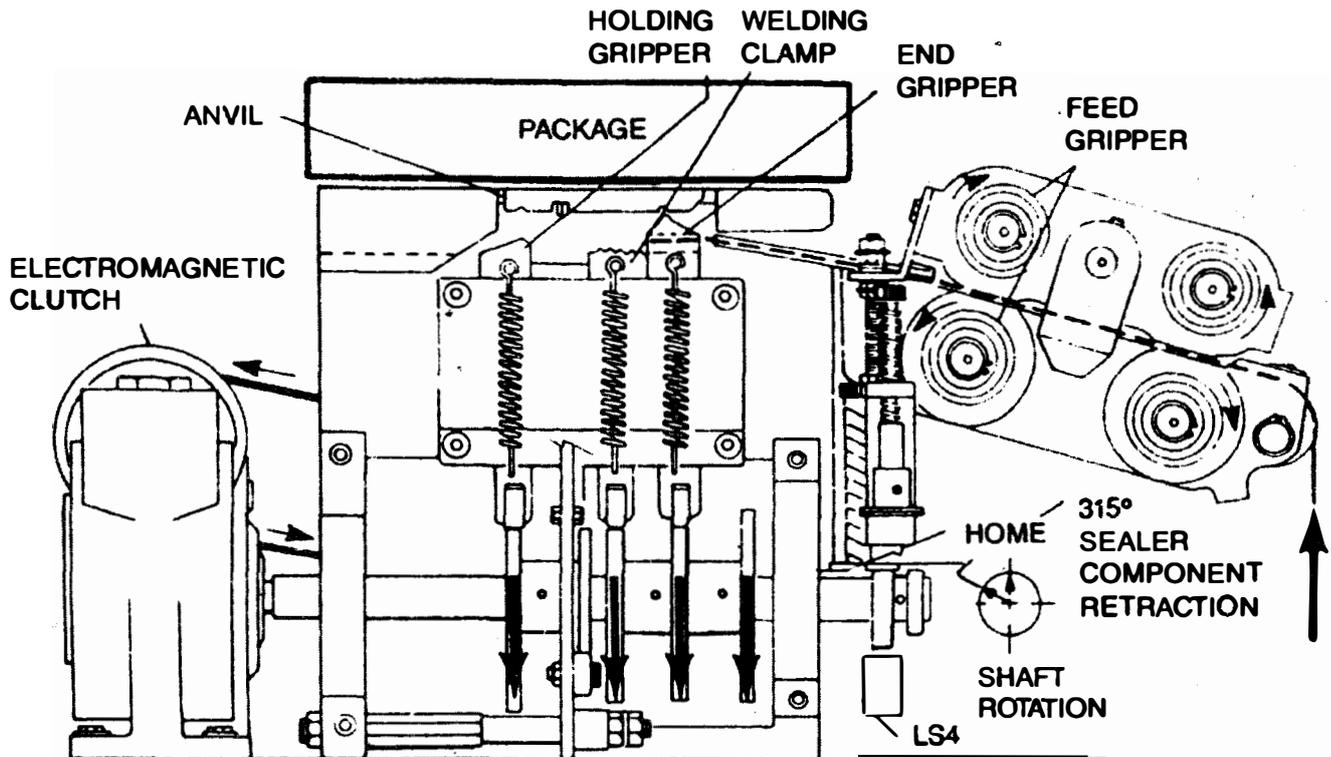

FIGURE 20. WELDED STRAP IS RELEASED; HEAD IS IN HOME POSITION; STRAP FEEDS
3. Position Ls3 as shown in Figure 20. When set, tighten the mounting screws.